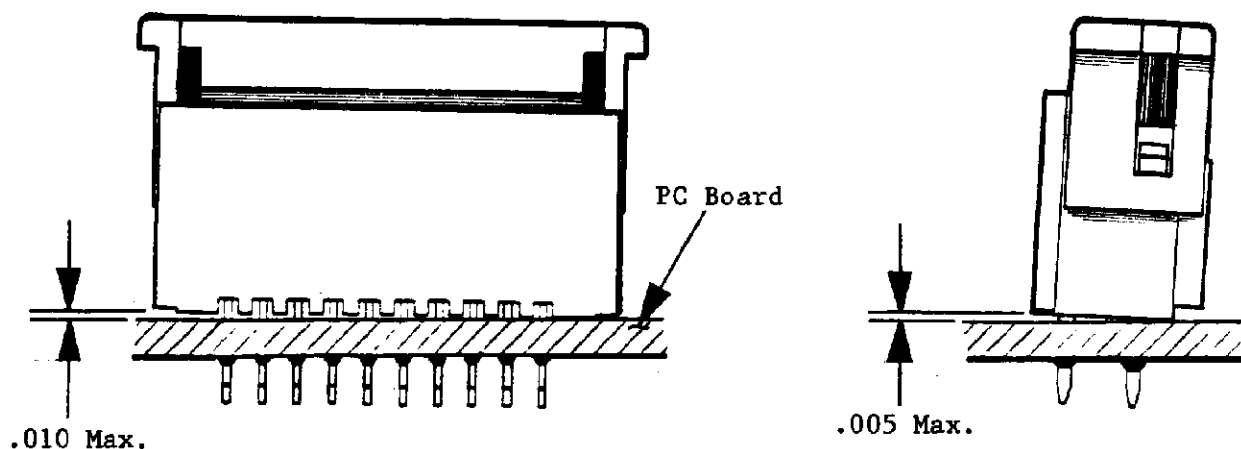

Fig. 4 Connector Alignment
4.3. Seated connectors shall be flush with the surface of the printed circuit board or within the limits specified in Figure 4.